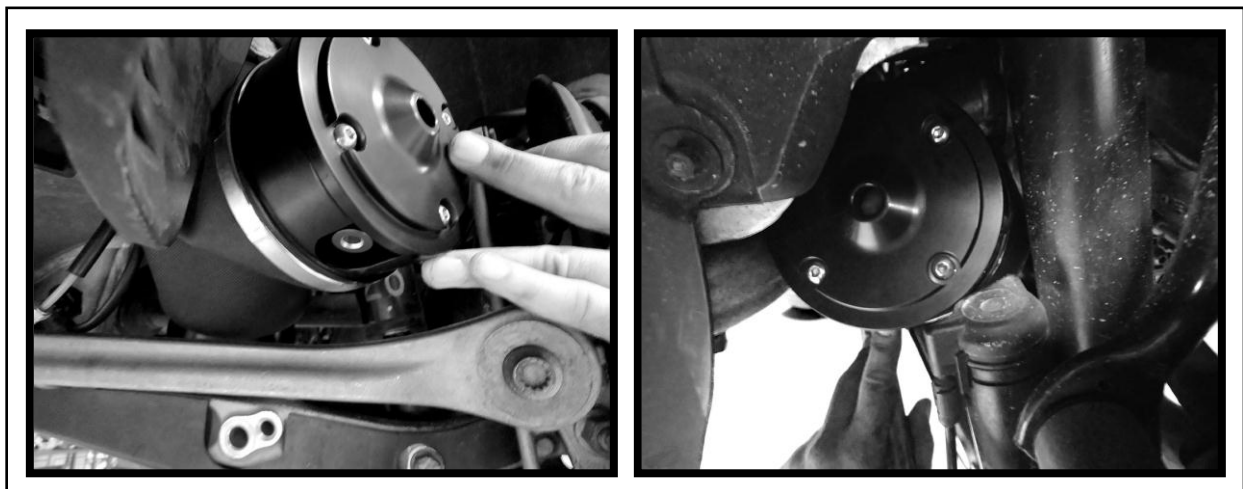

FIGURE 10-11
2.0 COMPRESS AIR SPRING TO INSTALL. (FIGURE 10-11)